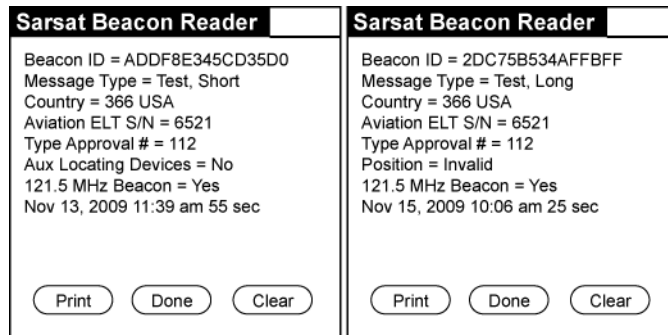

Figure 9 Short & Long 406 MHz Message Examples
- 3) Perform a self-test by placing the control switch in the SELF-TEST position. Once the LED blinks once, release the switch. Example results are shown in Figure 9. Actual messages will vary depending on the protocol and information programmed into the ELT.